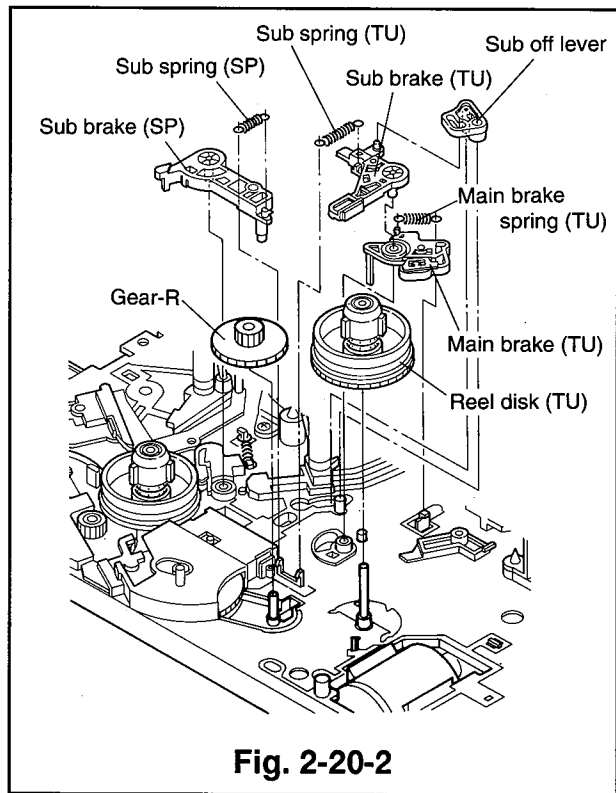

Fig. 2-20-2
- ⑤ Raise the gear R(takeup side) upward to remove it from the shaft. (Refer to Fig. 2-20-2.)
- ① Install the gear R(takeup side) on the shaft. (Refer to Fig. 2-20-2.)
- ② Install the takeup reel disk on the shaft. (Refer to Fig. 2-20-2)